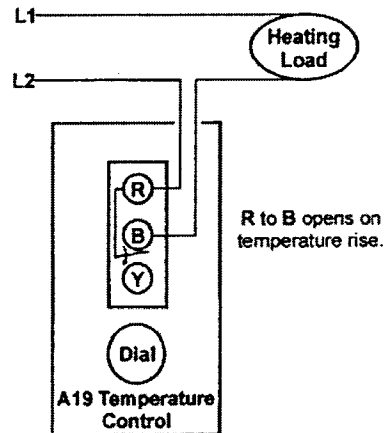

Figure 2: Typical Wiring for Heating Applications
When the temperature at the sensing element rises to the setpoint (dial setting), the switch between R and Y closes, and the switch between R and B opens on Single Pole, Double Throw (SPDT) models. See Figures 2, 3, and 4.
4. Make wiring connections to the screw terminals. See Figures 2, 3, and 4.